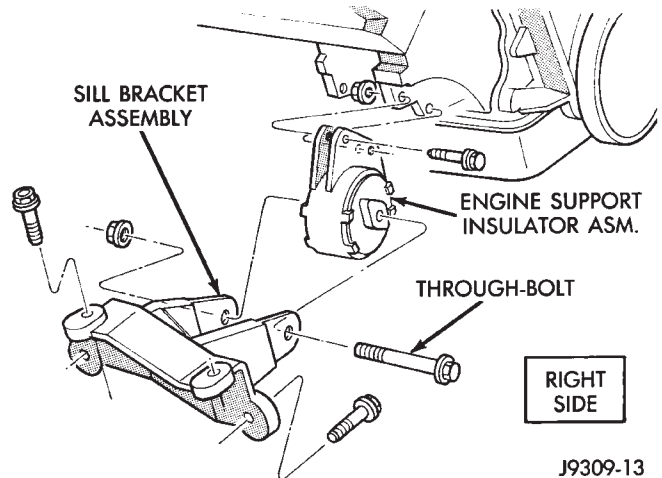
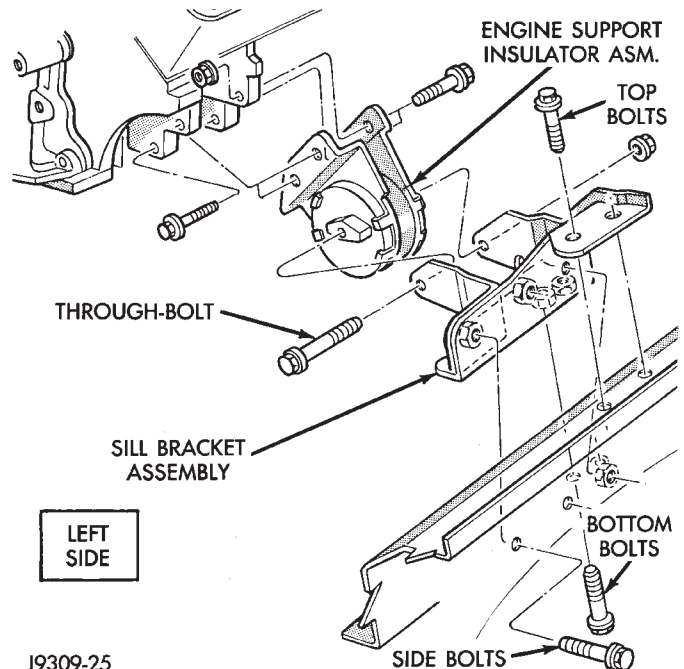

Fig. 15 Front Engine Mount—Right Side
Fig. 16 Front Engine Mount—Left Side
- (3) Install engine lifting fixture.
- (4) Raise vehicle on hoist.
- (5) Remove the engine support insulator thru-bolts and nuts (Fig. 15) (Fig. 16).
- (6) Raise engine SLIGHTLY. Remove the engine support insulator bolts. Remove the engine support insulator assembly.
- (7) If required, remove the sill bracket assembly.
(a) **RIGHT SIDE**—Install the sill bracket assembly onto the sill assembly (Fig. 15). Install and tighten the bolts to 65 N·m (48 ft. lbs.) torque.
(b) **LEFT SIDE**—Install the sill bracket assembly onto the sill assembly (Fig. 16). Install and tighten the 2 top bolts to 65 N·m (48 ft. lbs.) torque. Install and tighten the 2 side bolts to 95 N·m (70 ft. lbs.) torque. Install and tighten the 2 bottom bolts to 121 N·m (89 ft. lbs.) torque.
- (2) With the engine raised SLIGHTLY, position engine support insulator assembly onto the engine block (Fig. 15) (Fig. 16). Install bolts and tighten to 88 N·m (65 ft. lbs.) torque.